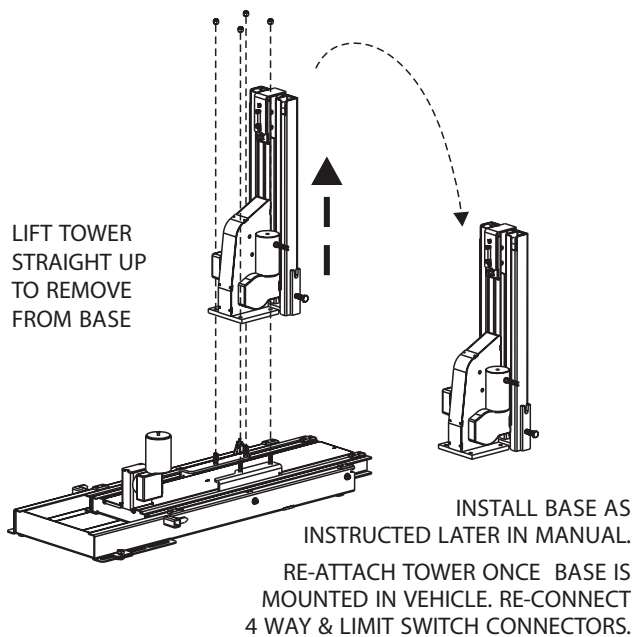

Figure 3-4
3. Lift tower straight up to remove from base. *See Figure 3-4*